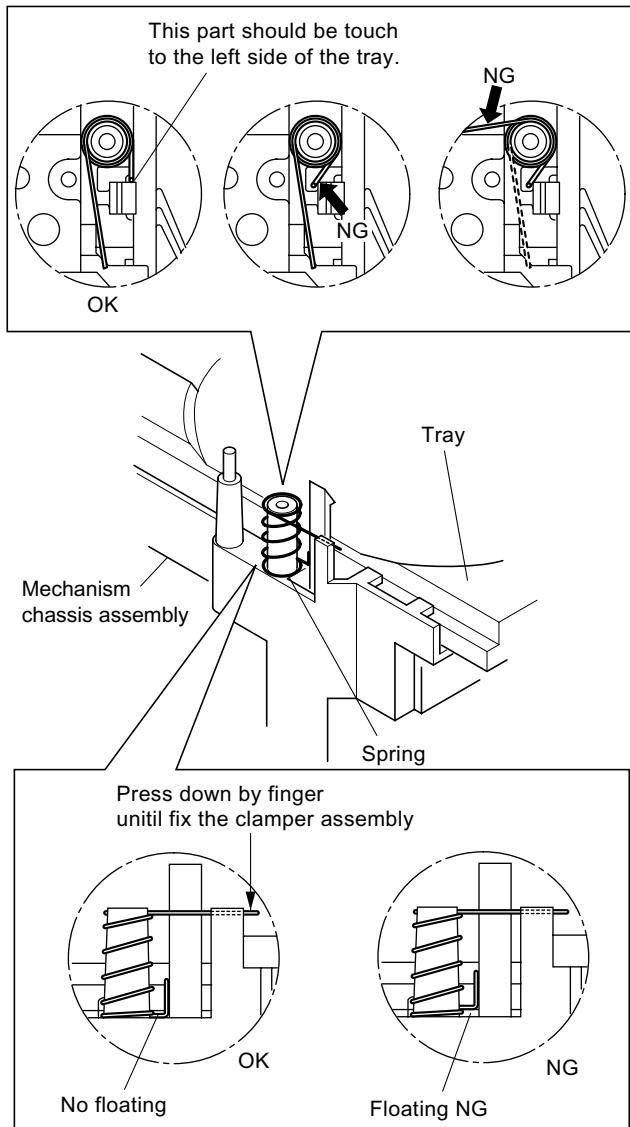

Fig. 2-1-3
2. By referring to Fig. 2-1-3, insert the spring normally and mount the clamper stay.